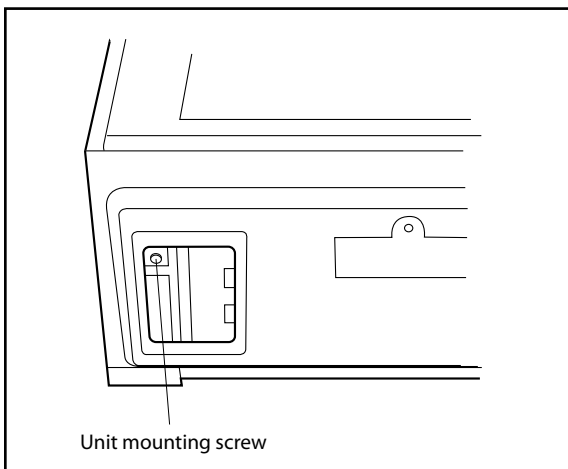

Figure 21
3. Tighten the two unit mounting screws located in the grease filter openings. See Figure 21.